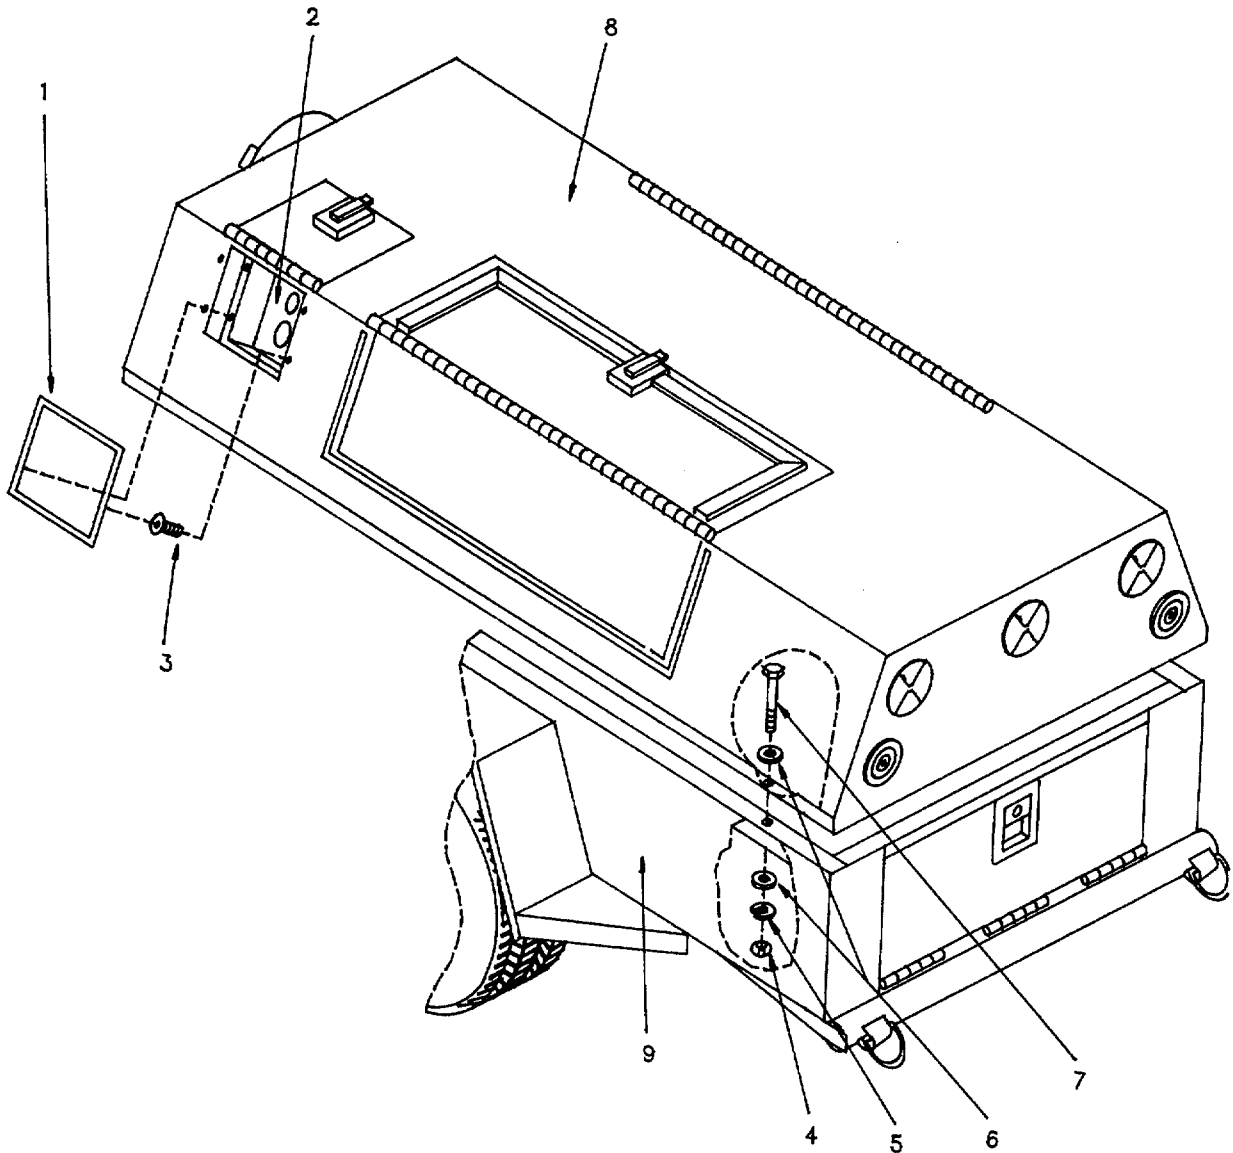

Figure 4-1. Complete Top Hood Assembly Removed.
- (1) Remove nonmetallic seal (1, Figure 4-1) from frame control panel (2).
- (2) Remove flat machine screws (3).